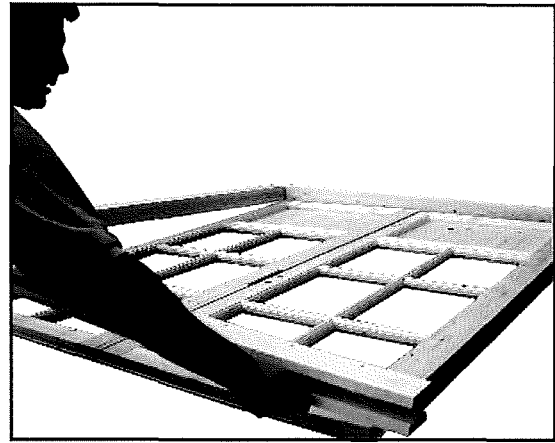

Fig 14
- 2 Lay the outer frame in position (fig 14).
- 7 Close the hinges and lay the frame assembly over the doors (fig 14).